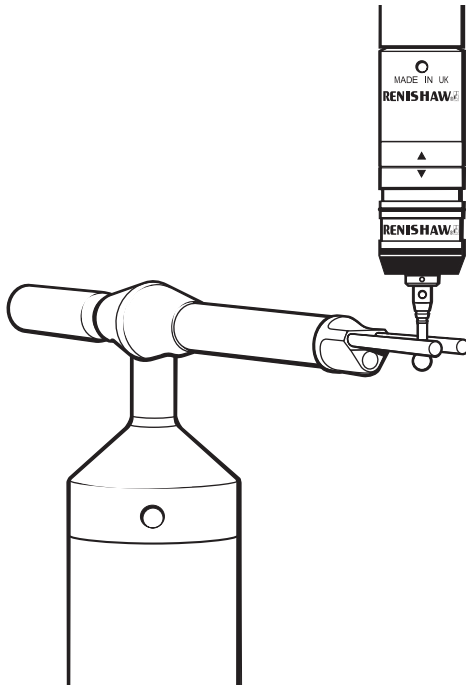

Figure 12 - Locating the stylus ball between the stylus guide rods
13. Locate the stylus ball between the stylus guide rods as shown in figure 12.